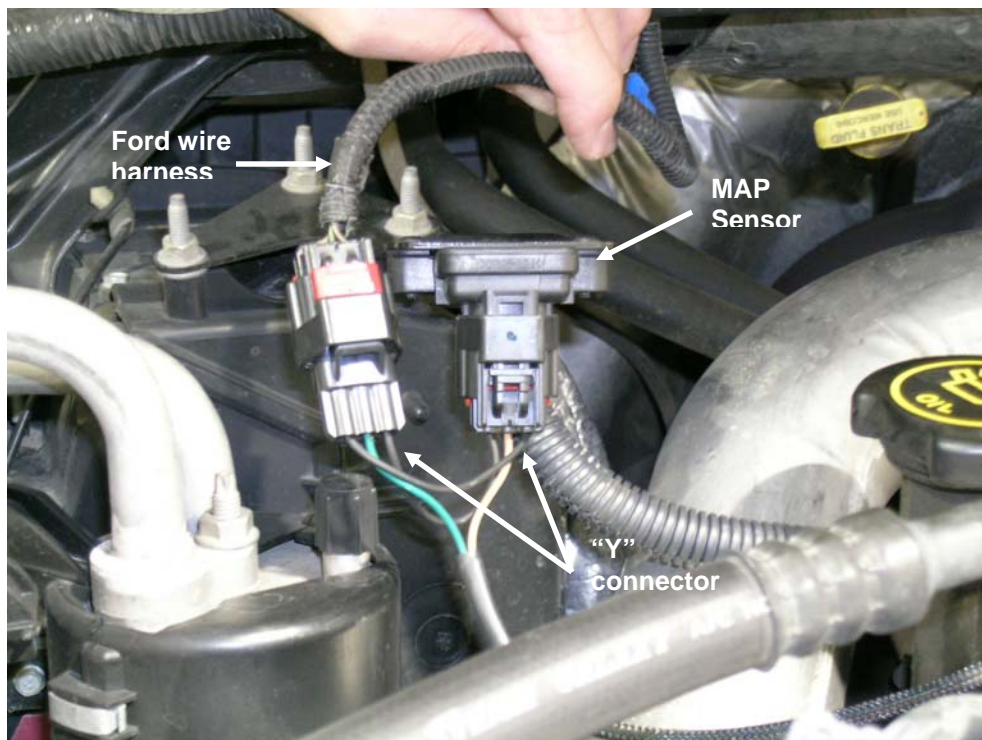

Figure 6
3. Connect the MAP “Y” connector between the wire harness and the sensor as shown in Figure 6. This connection is located in front of the passenger side of the vehicle in the engine compartment.